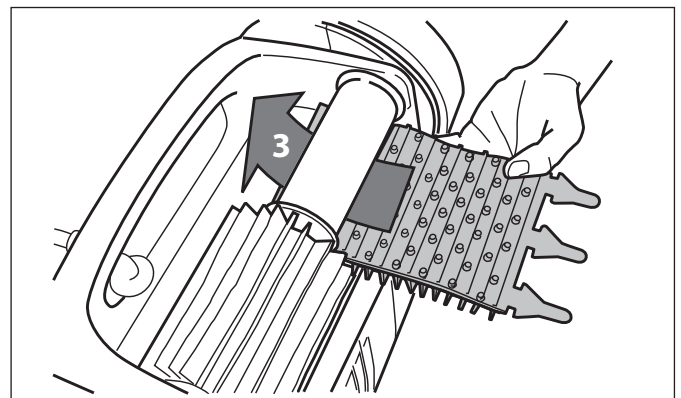

Figure 28. Install the New Brush
- To install the new brush, position the new brush on the roller with the cleaning blades facing away from the roller (Figure 28).